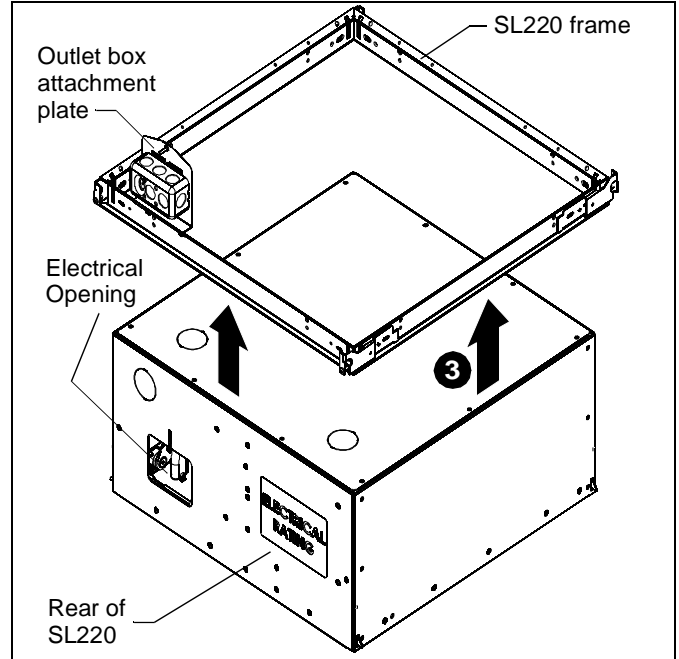
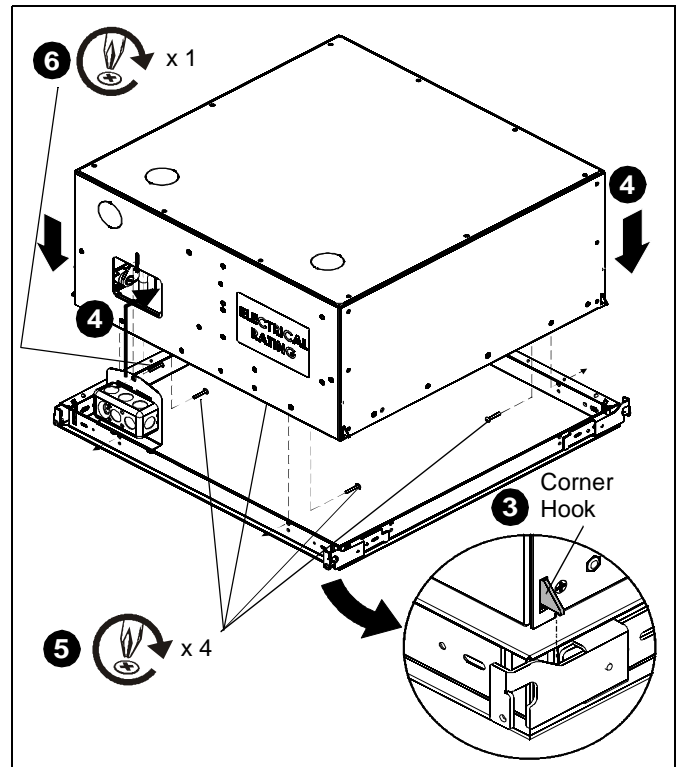

Figure 13
Figure 14
- Orient lift assembly so that the rear of the SL220 (with the electrical opening) lines up with the outlet box attachment plate on the SL220 frame. (See Figure 13)
- Lift SL220 lift assembly into place through the SL220 frame. (See Figure 13) Ensure that there are four audible clicks---each corner hook "clicking" into place onto the frame. (See Figure 14)
- Lower onto SL220 frame, carefully lining up outlet box attached to SL220 frame, with opening at rear of SL220. (See Figure 14)
- Secure the SL220 to the SL220 frame using four 8-32 x 1" Phillips head screws (previously removed), two in the front and two in the back of the SL220. (See Figure 14)